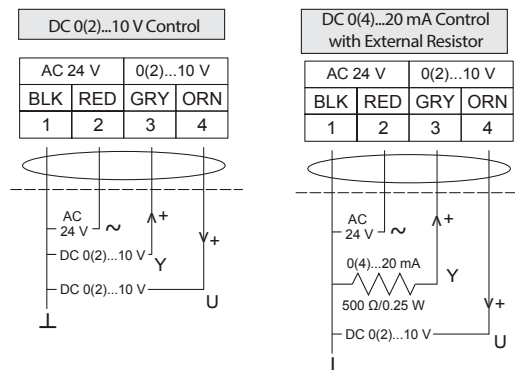

Figure 11: VAM24-35-P-T Control Wiring Diagram
The VAM24-35-P-T Series Electric Non-Spring Return valve actuators require AC 24 V power and a DC 0(2) to 10 V or 0(4) to 20 mA controller input signal. These electric actuators include an integrated 120 in. (3.05 m) long cable; see Figure 11 for proper wiring.